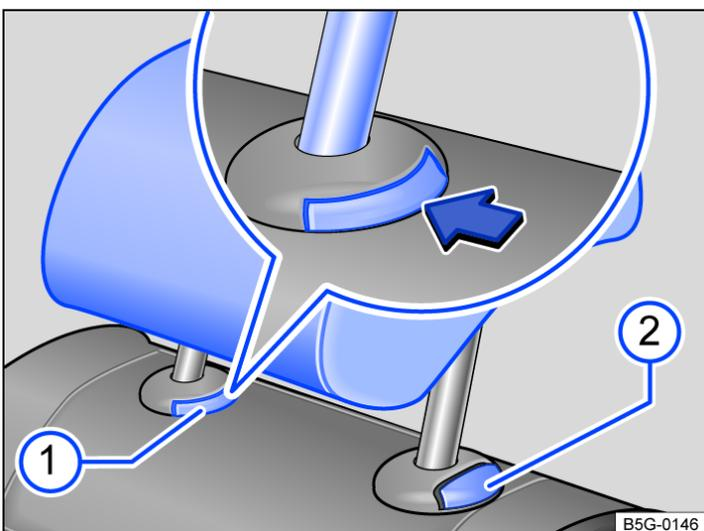

Fig. 2 Rear head restraint: removing.
- Press button → Fig. 2 ^① on the head restraint guide.
- At the same time, press button → Fig. 2 ^② while a second person pulls the head restraint out fully.